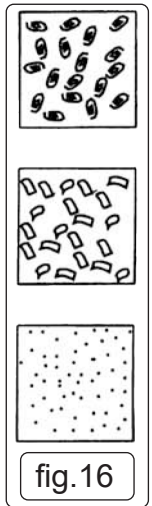

fig.16
- 7.6.6. To determine if the feed is incorrect, examine the chips produced (fig.16). When the blade is operating at the ideal feed for the speed, the chips will be curled and continuous. If the chips are thick and not continuous, the feed pressure should be reduced. If the chips are powdery, the feed pressure by leaning on head.